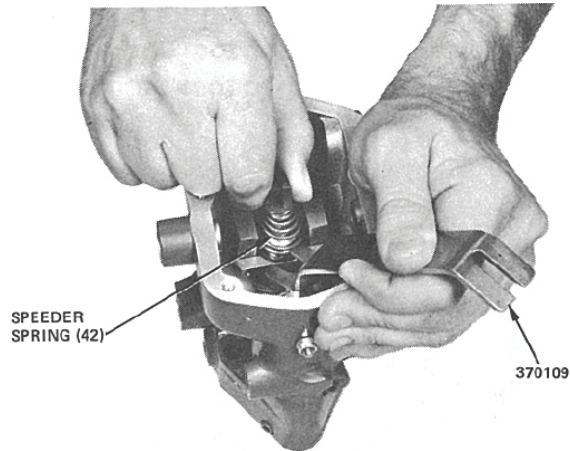

Figure 3-24. Speeder Spring Installation
19. Install speeder spring on spring seat. Place tool 370109 under spring seat (40) and force the spring seat upwards and at the same time place speeder spring (42) on top of spring seat. Hold spring seat (40) and push spring (42) down and turn cw to secure it on spring seat. See Figure 3-24.